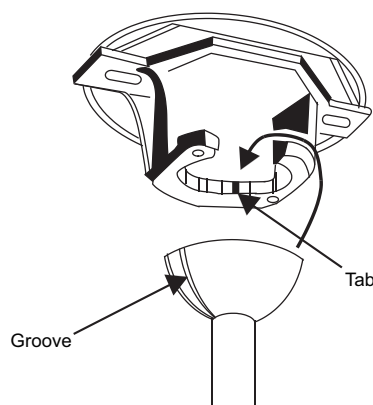

Figure 6
5. Carefully lift the fan assembly up to the ceiling mounting bracket and seat the hanger ball in the mounting bracket socket. Make sure the tab on the mounting bracket socket is properly seated in the groove in the hanger ball (Figure 6). This will help to balance the ceiling fan.
**Warning:** The tab in the ring must rest in the groove of the hanger ball as figure 6. Failure to properly seat the tab in the groove could cause damage to wiring.